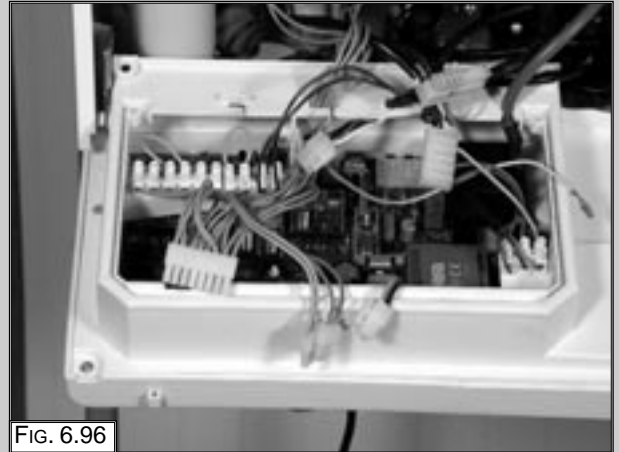

FIG. 6.96
2. Unplug all the electrical connections (FIG. 6.96);